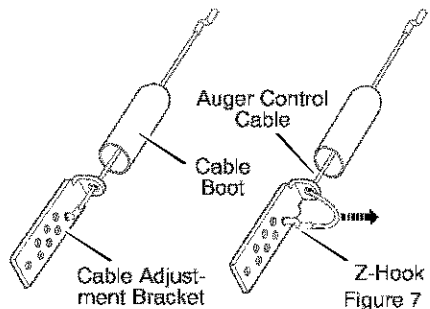

Figure 7
2. Slide the **cable boot** up the **auger control cable** until the **cable boot** does not cover any portion of the **cable adjustment bracket** (Figure 7).
3. Pull the **auger control cable** through the eyehole in the **cable adjustment bracket** as shown by the arrow in Figure 7. This will create enough slack to allow the "Z" hook to be easily removed.